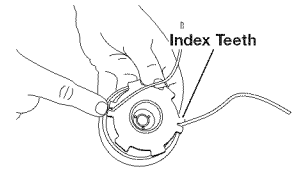

Fig. 20
12. Insert the ends of the line into the two holding slots (Fig. 20).